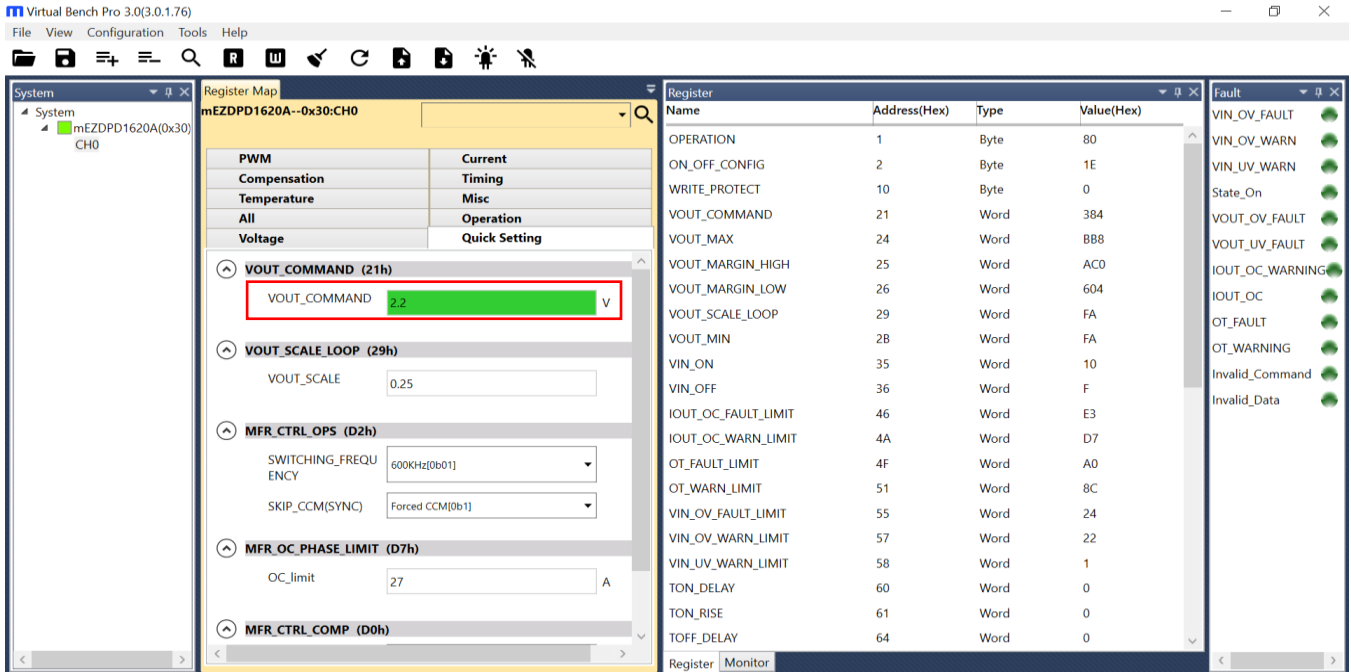

Figure 8: Enter Desired Values in the Register
- Change the register value as desired. A valid input must be entered. Otherwise, an alert will appear, and the entered value will not be accepted (see Figure 8).